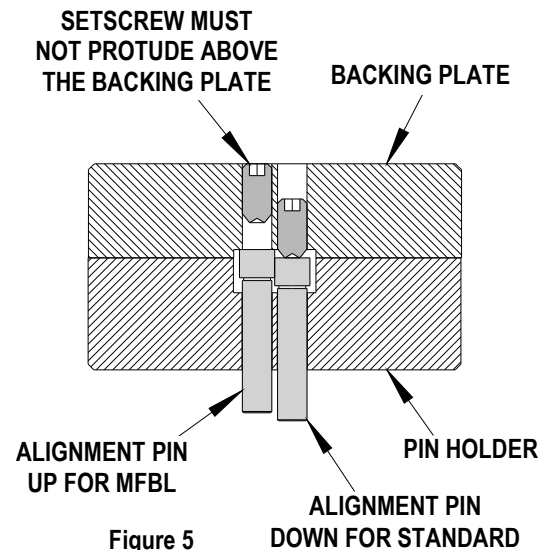

Figure 5
When Micro-Fit Headers with the Make-First-Break-Last mating pins, the tool is assembled with the recessed pocket in the backing plate positioned as shown in Figure 5. Certain Headers have varying lengths of mating pins. In these cases, the alignment pin must be adjusted up or down.
1. Remove the (4) M3 screws from the backing plate.
4. Replace the backing plate and replace the (4) screws. Be sure the backing plate is assembled correctly to the pin holder shown in Figure 5.